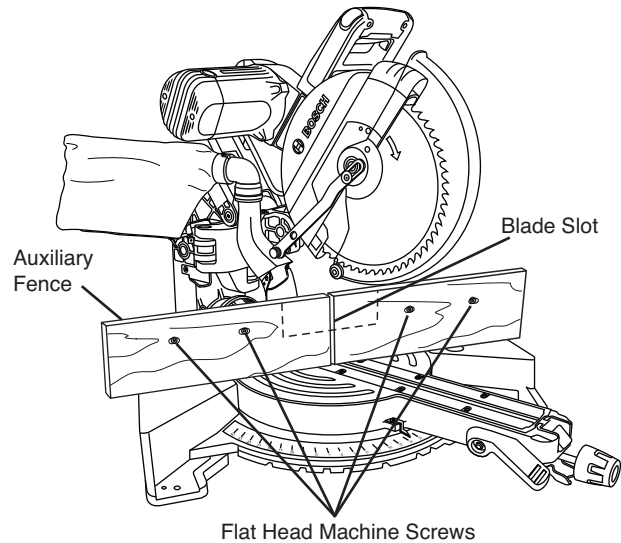
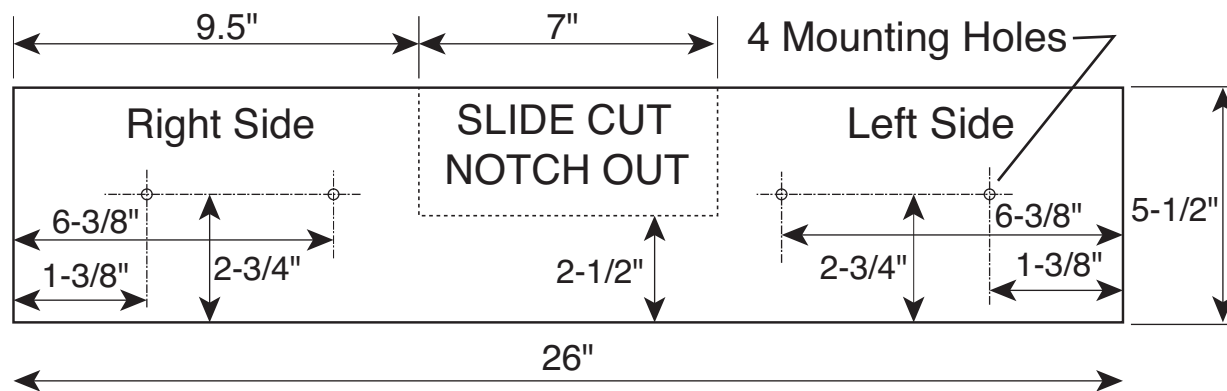

Figure 36. Auxiliary Fence
Figure 37. Tall Auxiliary Wood Fence - 3/4" Thick
1. Place a piece of wood against the miter saw fence (see Figure 36). Wood can have a maximum height of 5-1/2". Check that auxiliary fence assembly does not interfere with head assembly. See dimension drawing – Figure 37.
4. Fasten from front of fence: Attach (each) auxiliary fence using two (2) 3/16" flat head machine screws. With 3/4" auxiliary fence, use 1-1/2" long screws. Secure behind metal fence with washer and machine nuts.
7. When making slide cuts, the center must be notched out per pattern (see Figure 37).